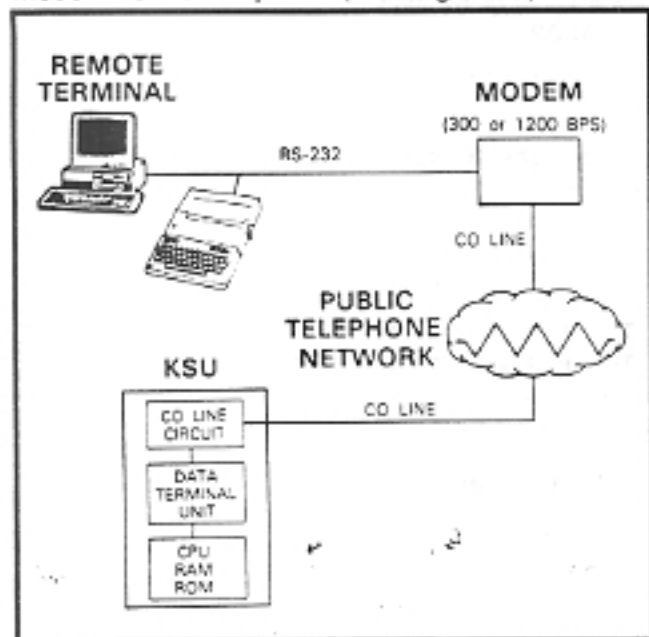

FIGURE 1—SDTU/HDTU CIRCUIT DIAGRAM
02.01 Remote Administration/Maintenance is accomplished with a remote terminal/modem communicating over the public telephone network via a Data Terminal Unit (DTU) installed in the STRATA_e HKSU. The DTU contains a built-in modem so an external, customer-supplied, modem is not required (see Figure 1).